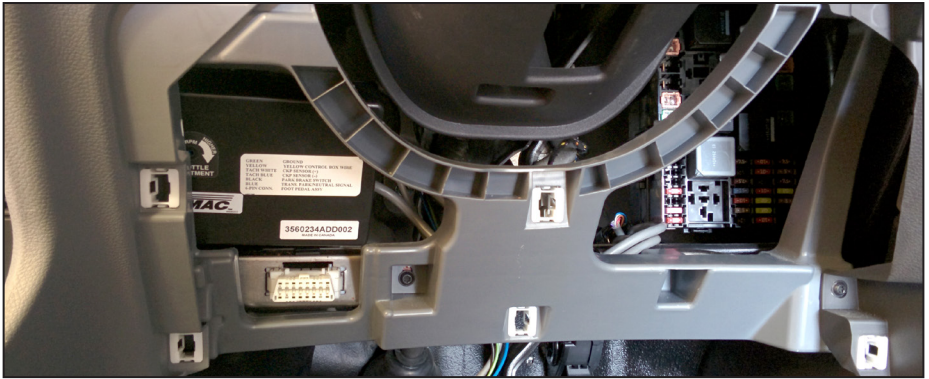

Figure 58 — Mount Throttle Control
- Remove the panel underneath the steering wheel (Figure 58).
- Secure the throttle control with cable ties so that the "SPEED 1" adjusting screw is accessible (Figure 58).